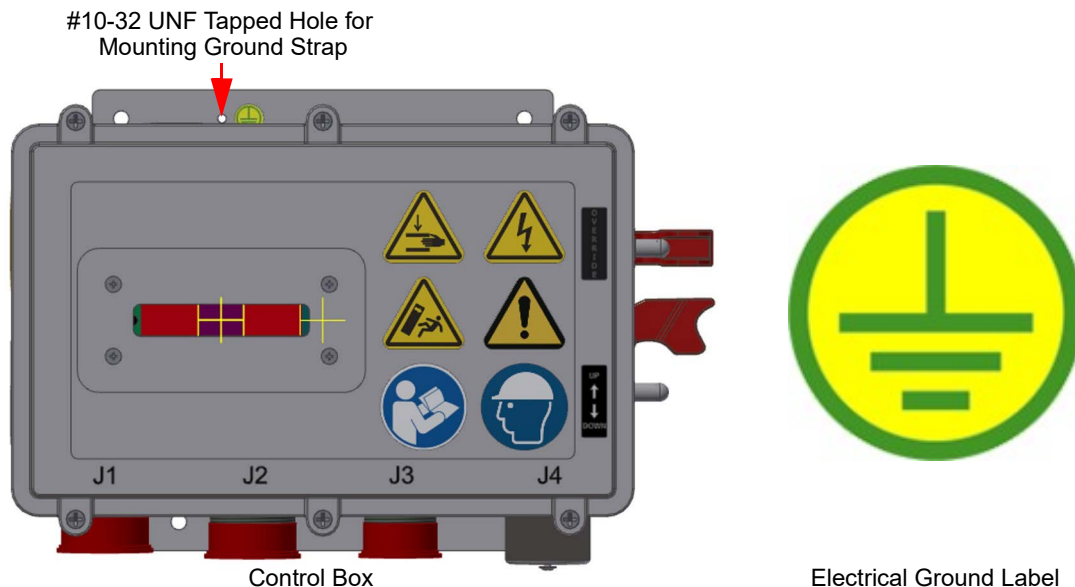

Figure 5-7 Control Box Ground Location
3. Use 10-32 UNF hardware and a Ground Strap to ground the Control Box from the designated ground location (Figure 5-7) to the chassis of the vehicle or a known earth ground. The ground location on the Control Box is designated with the electrical ground label. Torque the ground strap hardware to 24-31 in.-lb. (2.7-3.5 N-m).